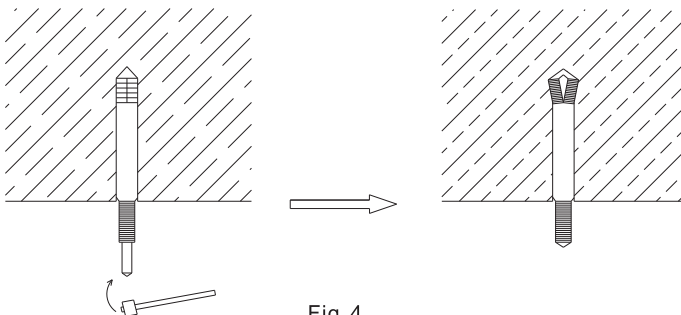

Fig 4
- Insert M10 Expansion bolts into mounting holes and then drive iron nails into bolts, see Fig 4. As for the hole intervals, please refer to Fig 1 and Fig 2.